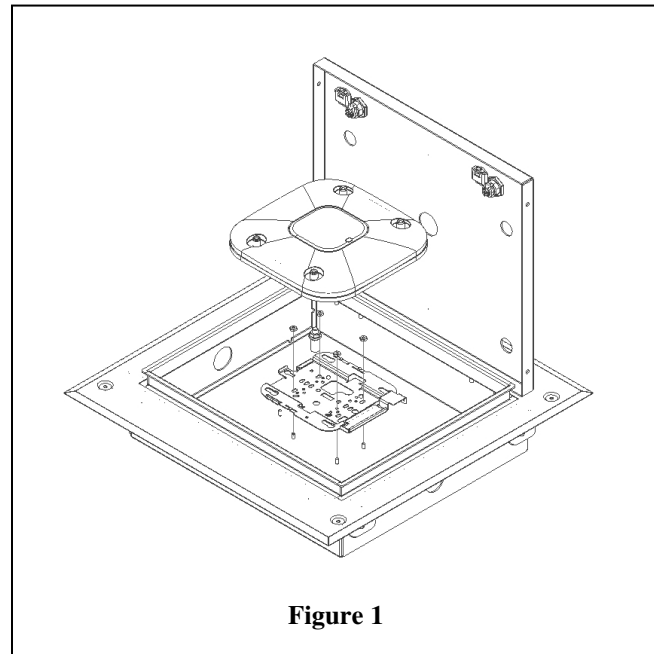

Figure 1
Step 2a – (For Cisco AP's Only) The mounting studs for Cisco AP's are located in the bottom of the enclosure. Standard Cisco mounting brackets as well as "Bracket 2" can be attached so the "Cisco" logo of the AP is parallel to the hinge. For "Bracket 1" the logo of the AP will be mounted perpendicular to the hinge. Securely fasten the access point's mounting plate to the mounting holes on the mounting plate of the enclosure using four (4) #8-32 machine nuts. Attach the Access Point to the mounting plate (Figure 1).